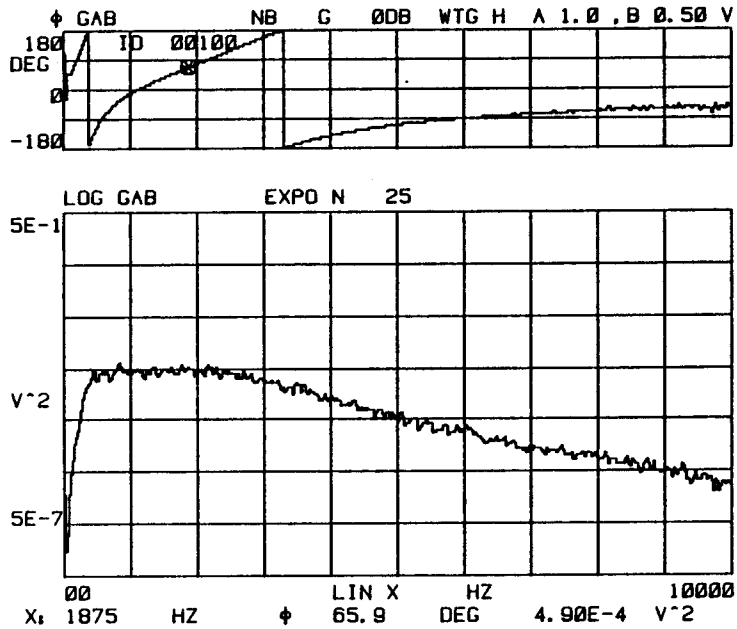

Figure 4-32. Display GAB & ϕ : DUAL and $\begin{matrix} A,B \\ \rightleftharpoons \end{matrix}$.
- d. Press the DISPLAY group $\begin{matrix} A,B \\ \rightleftharpoons \end{matrix}$ touch control and compare the display with Figure 4-32.